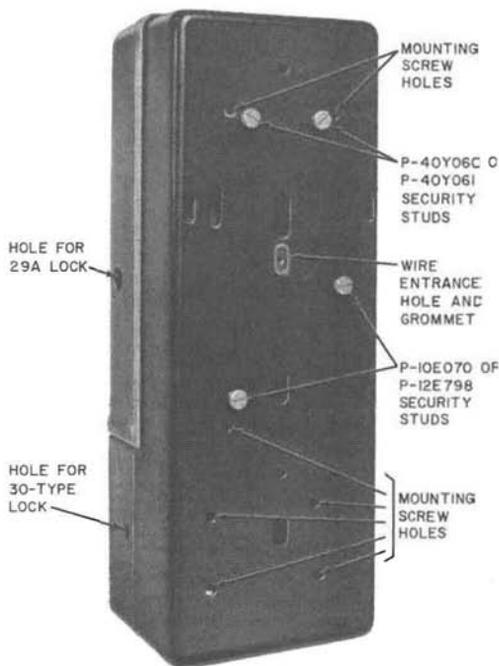

Fig. 3—Location of Mounting Screw Holes and Security Studs in 1C-Type
- 2.05 Refer to Fig. 3 and 4 and Tables B and C for security stud requirements.